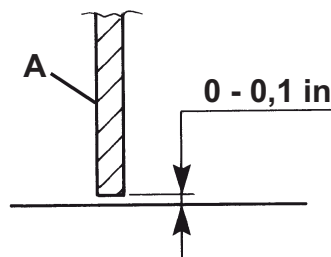

Figure 12
2. Check that distance from the ground of the side skirts (16 and 17) is within 0 – 0.1 in (0 – 3 mm) (Fig. 12). If necessary, adjust the skirt height according to the following procedure: